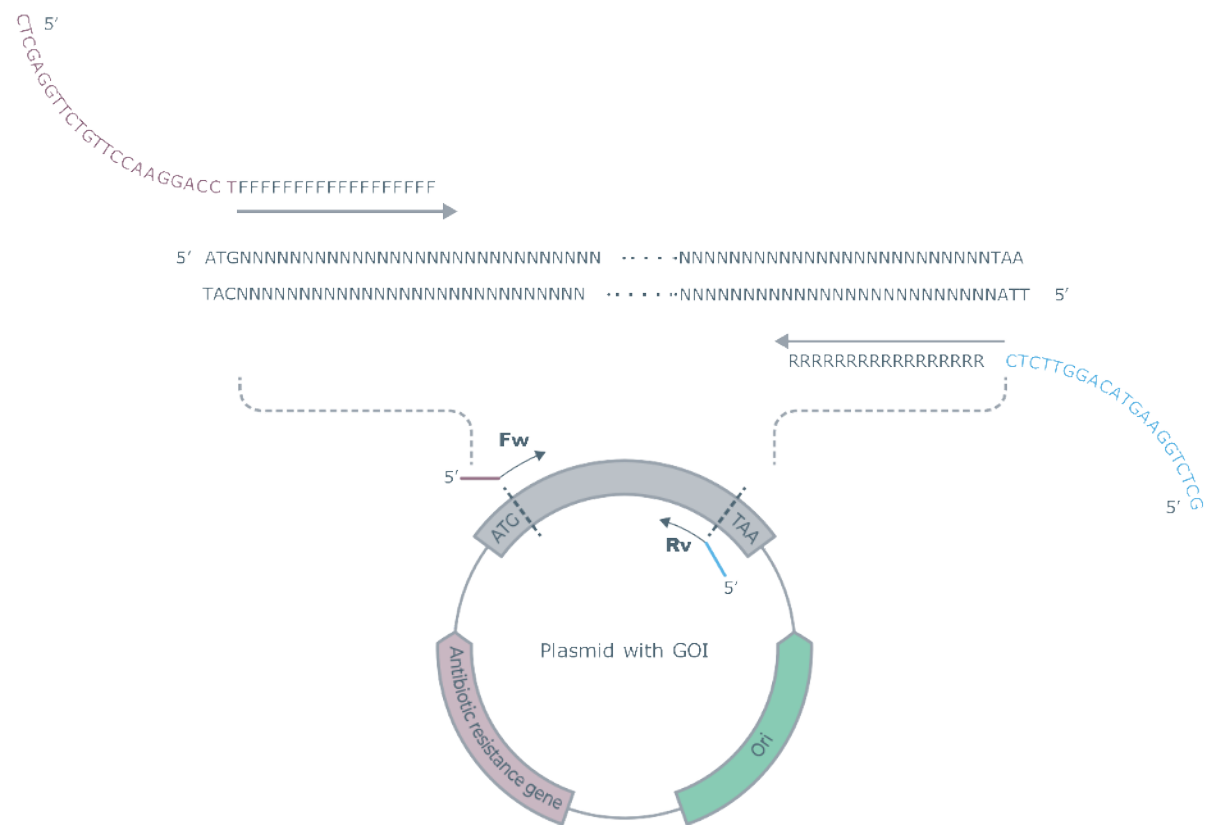

Figure 1. Illustration indicating the positions of the forward and reverse primer pair to amplify the GOI from a plasmid backbone.
- The 5' end of the forward primer should NOT include the translation start codon (ATG) (see fig 1).
- The 5' end of the reverse primer should NOT include the translation stop codons (TAA or TAG or TGA) (see fig 1).
amplify the vector and eGene™ insert. See Figure 1 for an example with pET28a.